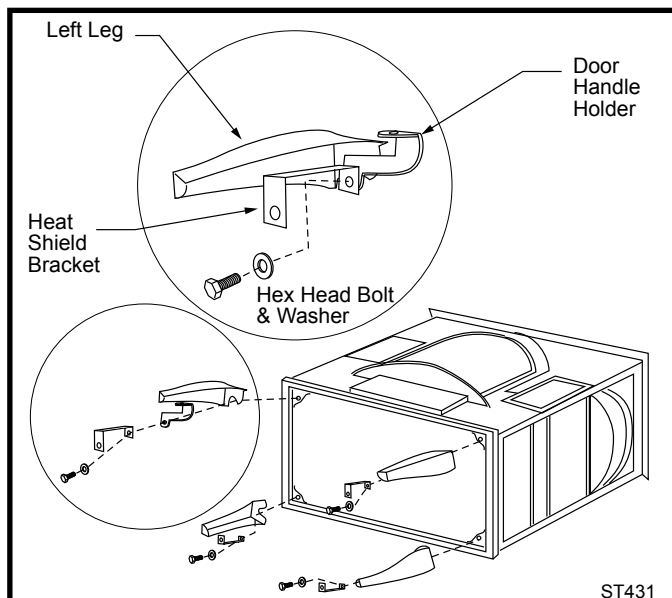

Fig. 19 To attach the legs, remove the bolts from the stove bottom and reassemble with the handle holder, heat shield brackets (if necessary) and washers.
2. The tops of the legs are slotted. Remove each leg bolt from the bottom of the stove and then replace it with a heat shield bracket and a washer. Place the door handle insert holder on the bolt for the left rear or either front leg. (Fig. 19)